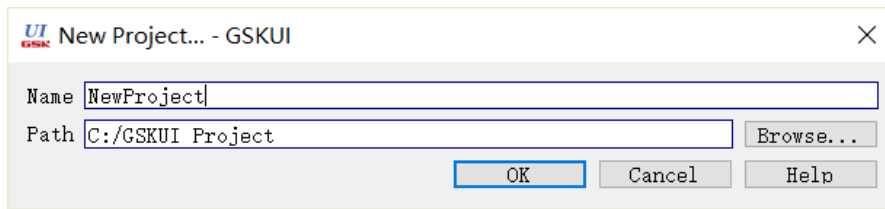

Fig. 1-81
(3) Enter the project name and select the storage path. As shown in Figure 1-81, a new project "NewProject" is created under the storage path "C:/GSKUI Project" directory, and a "NewProject" project folder will be created in the storage path at this time.